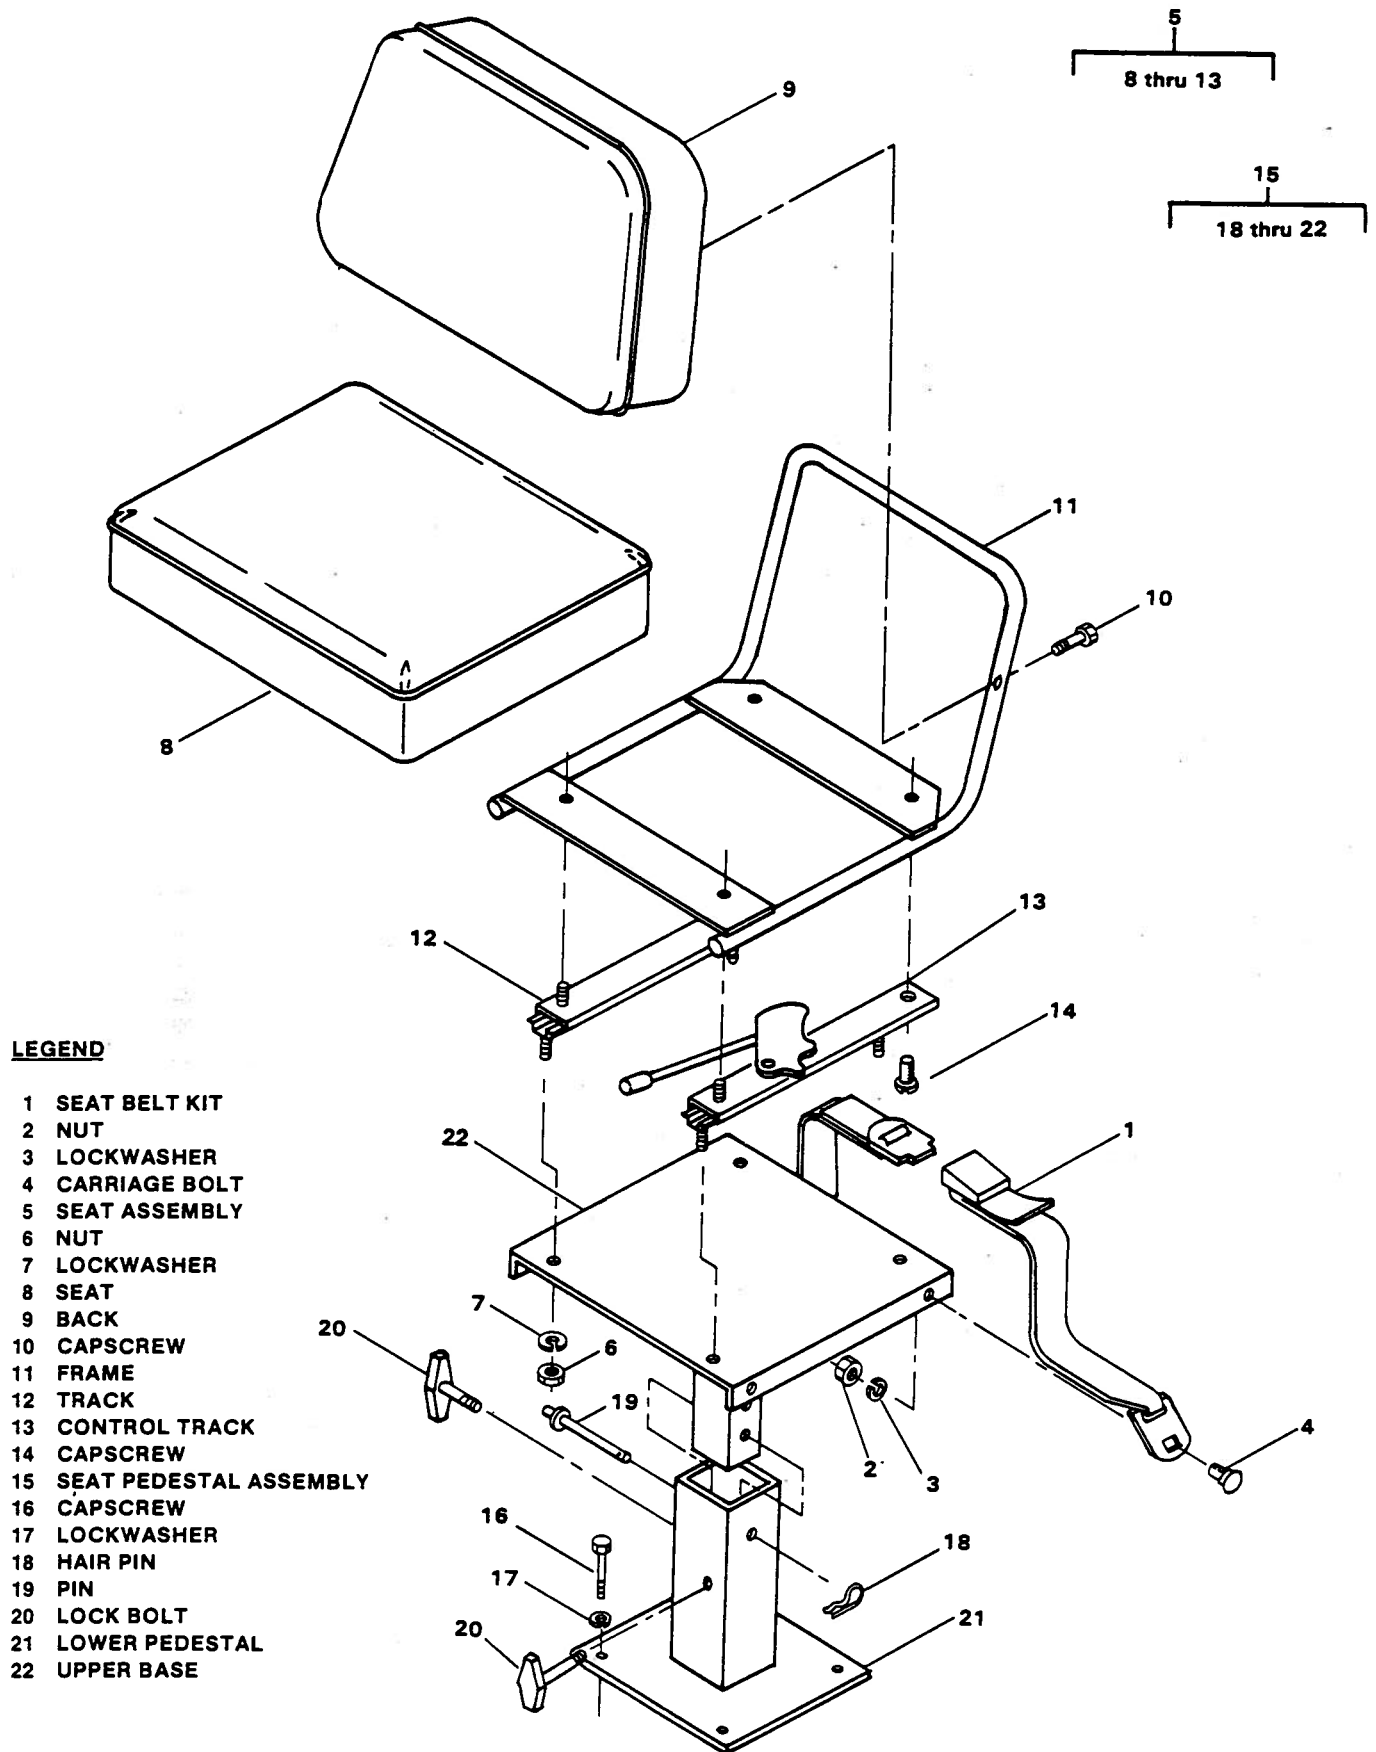

Figure 5-81. Seat and Pedestal Installation
5-134. DISASSEMBLY. (See figure 5-81.)
- a. Remove nuts (2, figure 5-81), lockwashers (3) and carriage bolts (4) securing seat belt kit (1) to upper base (22).
- b. Remove nuts (6) and lockwashers (7) securing seat assembly (5). Remove seat assembly (5).
- c. Remove capscrews (10) securing back (9) to frame (11). Remove capscrews (14) securing seat (8) to frame (11). Lift frame (11) from track (12) and control track (13).
- d. Remove capscrews (16) and lockwashers (17) securing seat pedestal assembly (15) to frame.
- e. Remove hair pin (18), pin (19), and lock bolt (20) to separate lower pedestal (21) from upper base (22).